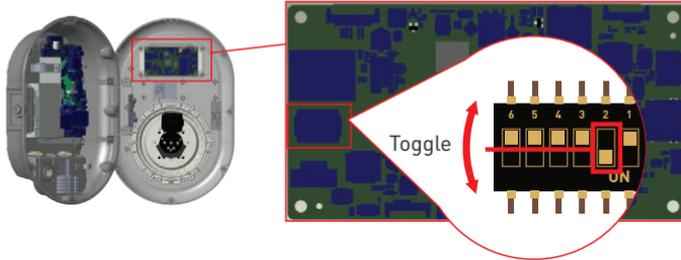

Figure.27
- Toggle the second position of DIP switch which is on the smart board of the charger shown in figure 27. After that please turn on the charger again.